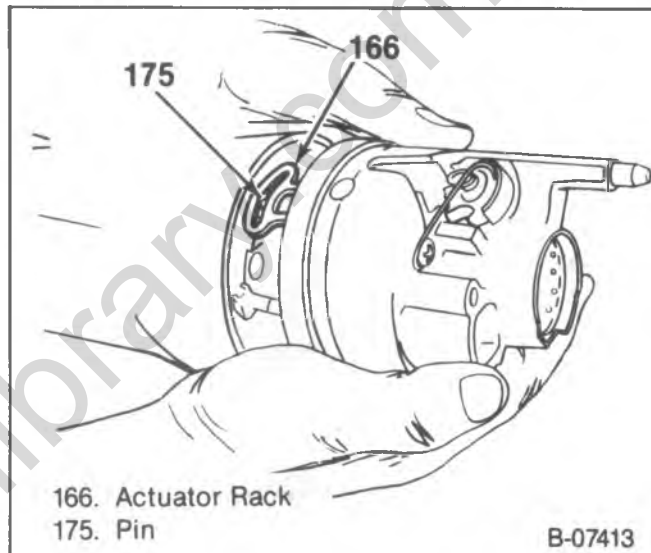

Figure 39—Bearing Housing Installation
- Engage the rack over the end of the actuator rod (figure 39).